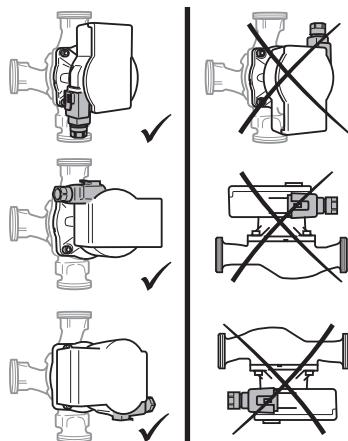

Fig. 2: Installation positions
- Select the installation point according to the permitted installation position (Fig. 2).